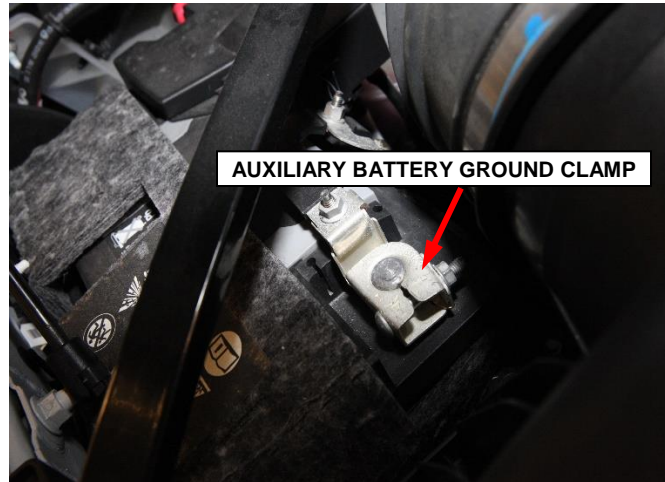

Figure 2 – Auxiliary Battery
3. If the vehicle is equipped with an auxiliary battery, loosen the clamp and remove it from the battery and isolate (Figure 2).
34. **If equipped** with an auxiliary battery, install the negative clamp on the negative battery post and tighten to the proper 7 N·m (62 in. lbs.) prior to connecting the IBS (Figure 2).